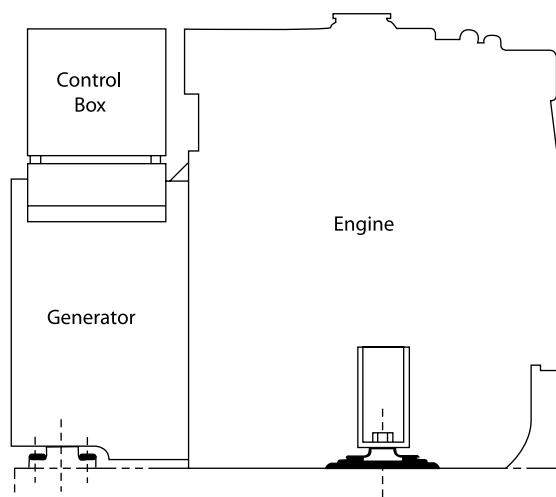

Figure 23: Composition.
1. A Generator Set includes the engine, the generator, and the control or "J" box (Figure 23).